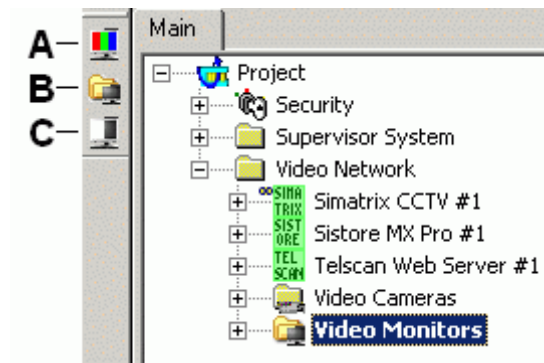

Fig 9 Adding monitors
2. In the left-hand bar (Fig 9), select the type: **Monochrome** or **Colour Monitor**.